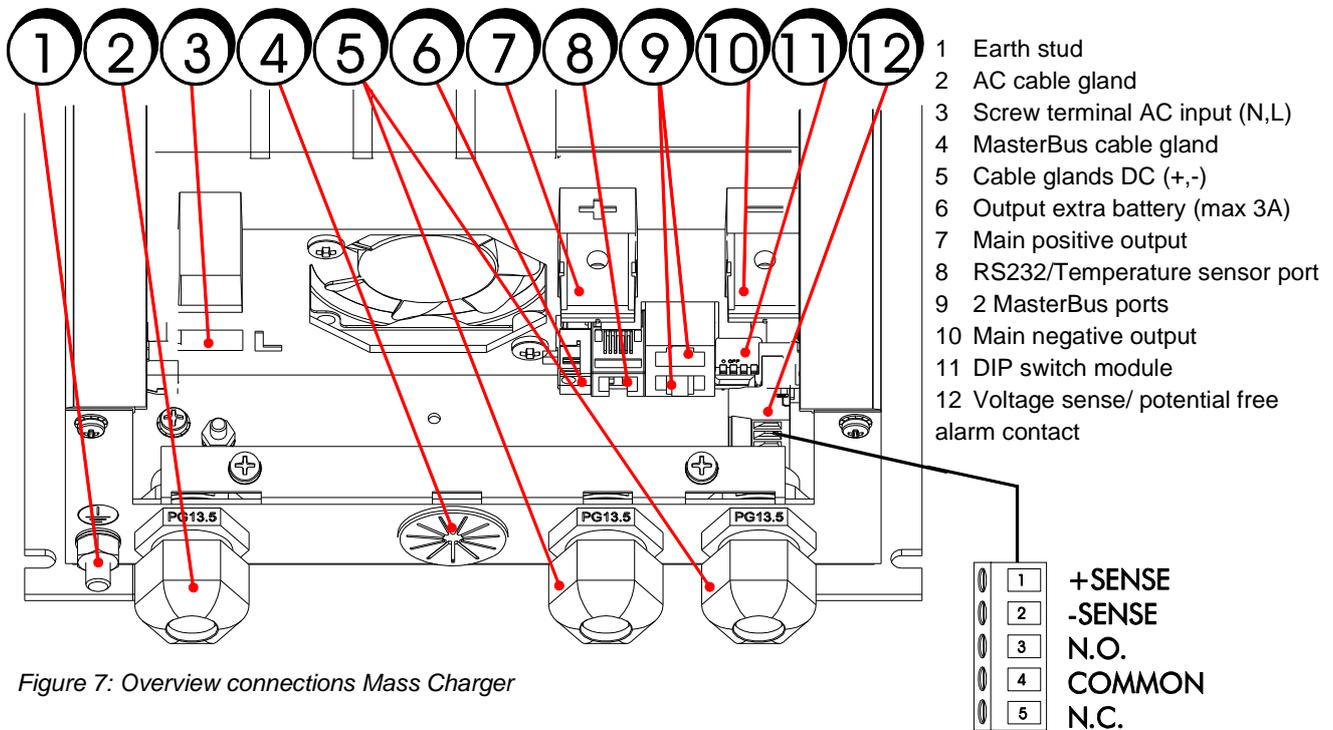

Figure 7: Overview connections Mass Charger
- 4 Compensate the voltage drop over the battery isolator by changing the setting of dip switch 4 (see figure 7).
- Connect the plus of the second battery to the +3A terminal of the Mass Charger (see figure 7 and 8).
The standard temperature sensor is provided with 6 m cable and a double-sided tape for easy installation. Determine the warmest place on the battery set and make it clean and grease free. Remove the piece of paper from the tape and stick the sensor on the battery. Plug the modular cable into a terminal at the right of the Mass Charger (see figure 7). It
To shorten the charge time substantially, the battery cable losses can be compensated by using the sense function. Use 0,75 mm², preferably red and black wire and secure these with fuses of 2A slow blow. Connect the wires with the two upper terminals of the green connector at the right side of the cabinet (see figure 7). Pay good attention to the polarity of the wires, red on +S and black on -S. Now connect the other side of the wires: black on the minus of the battery and red on the battery side of the Mass Charger fuse.
The battery charger is equipped with a potential free contacts alarm relay, see figure 7. The alarm function has two modes: standard (factory setting) and DC alarm mode (continuous mode).
Figure 7 shows the Mass Charger connections.
- 2 mm flat blade screwdriver for the sense terminal (figure 7 point 12).